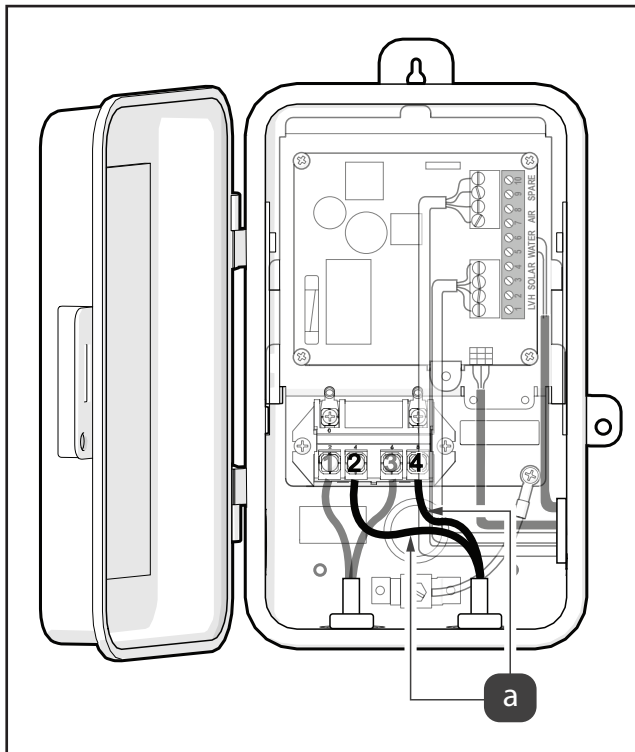

Figure 3. Connect Load Input Cables
10. Connect single speed filter pump to load side of relay, use terminals 2 and 4, see Figure 3 (a).